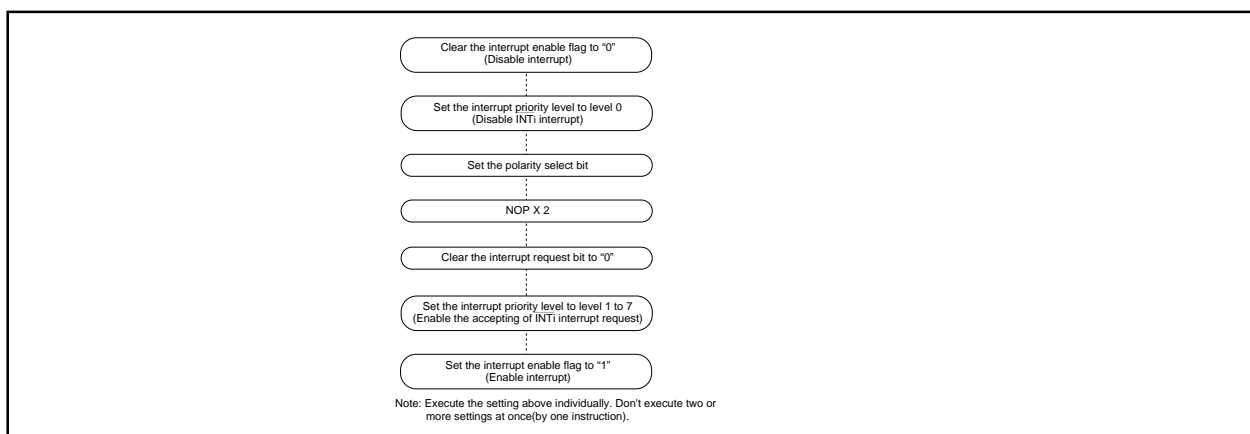

Figure 1.11.13. Switching condition of $\overline{\text{INT}}$ interrupt request
(2) Setting the stack pointer
(3) The $\overline{\text{NMI}}$ interrupt
(4) External interrupt
- When the polarity of the $\overline{\text{INT0}}$ to $\overline{\text{INT2}}$ pins is changed, the interrupt request bit is sometimes set to "1". After changing the polarity, set the interrupt request bit to "0". Figure 1.11.13 shows the procedure for changing the $\overline{\text{INT}}$ interrupt generate factor.